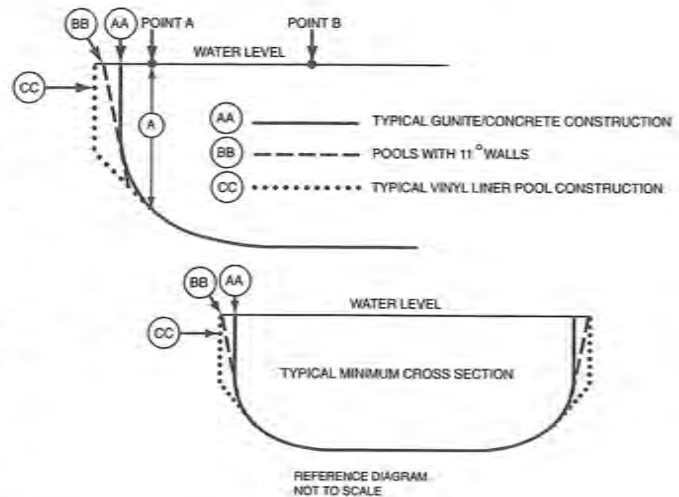

Figure 2 - Typical pool design configurations
5.9.4 Typical pool design configurations. Vinyl liner, shotcrete, fiberglass and concrete constructions shall conform to, but are not limited to, the typical pool configurations shown in figure 2.